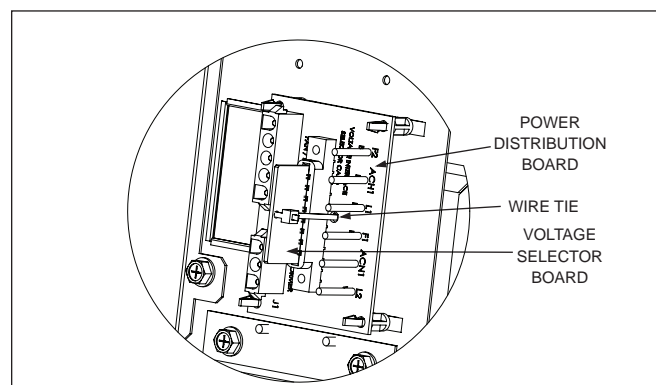

Figure 21. Power Distribution Board With Voltage Selector Board Installed for 240 VAC
2. Cut the plastic wire tie that is holding the voltage selector board in place and discard the wire tie. Unplug the voltage selector board from the receptacle (see Figure 21).